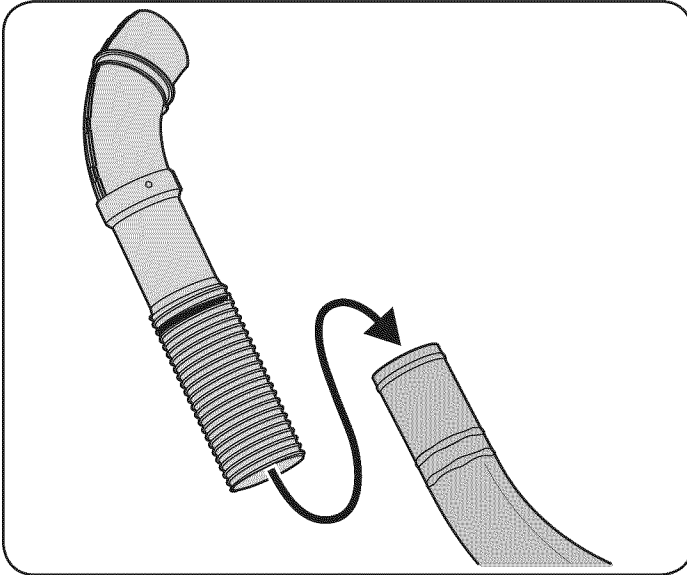

Figure 24
7. Install the upper chute tube onto the discharge chute elbow as shown in Figure 24.